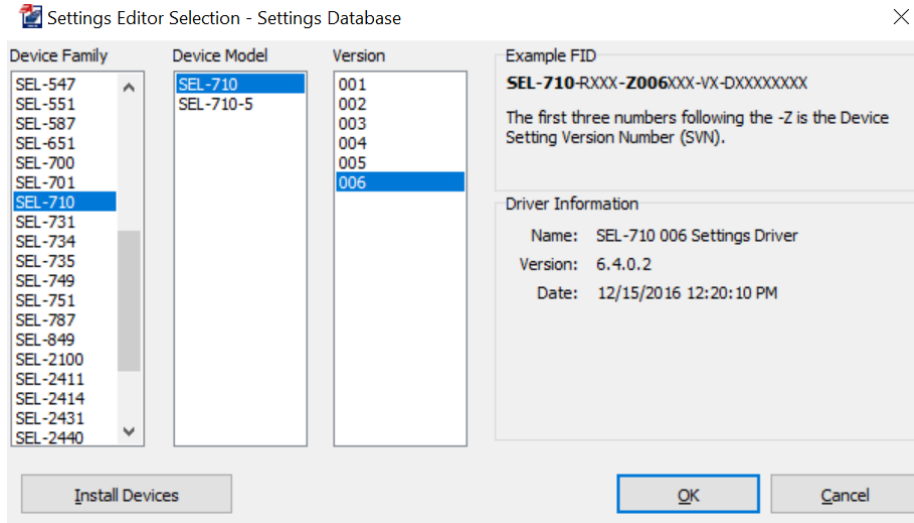

Figure 68: Identifying SEL-710 Relay Family, Model, and Version
- b. Choose the Device Family, Model, and Version for this specific relay unit from the available menus, then click Ok (Figure 68). Look up the relay’s version number using the front-panel interface on the relay. Press the **ENT** button, and use the down-arrow button to navigate to the **STATUS** option. Press the enter button again. Select the **Relay Status** option. Navigate down to the **FID** option. Scroll across the relay’s FID string until you come to the “Z-number.” The first three digits following the ‘Z’ comprise the relay version number. Press the **ESC** button several times to restore the front-panel screen to its normal display. Note: if no devices are listed in the QuickSet drop-down menus, then the device drivers need to be installed using the SEL Compass software. Ask for assistance.